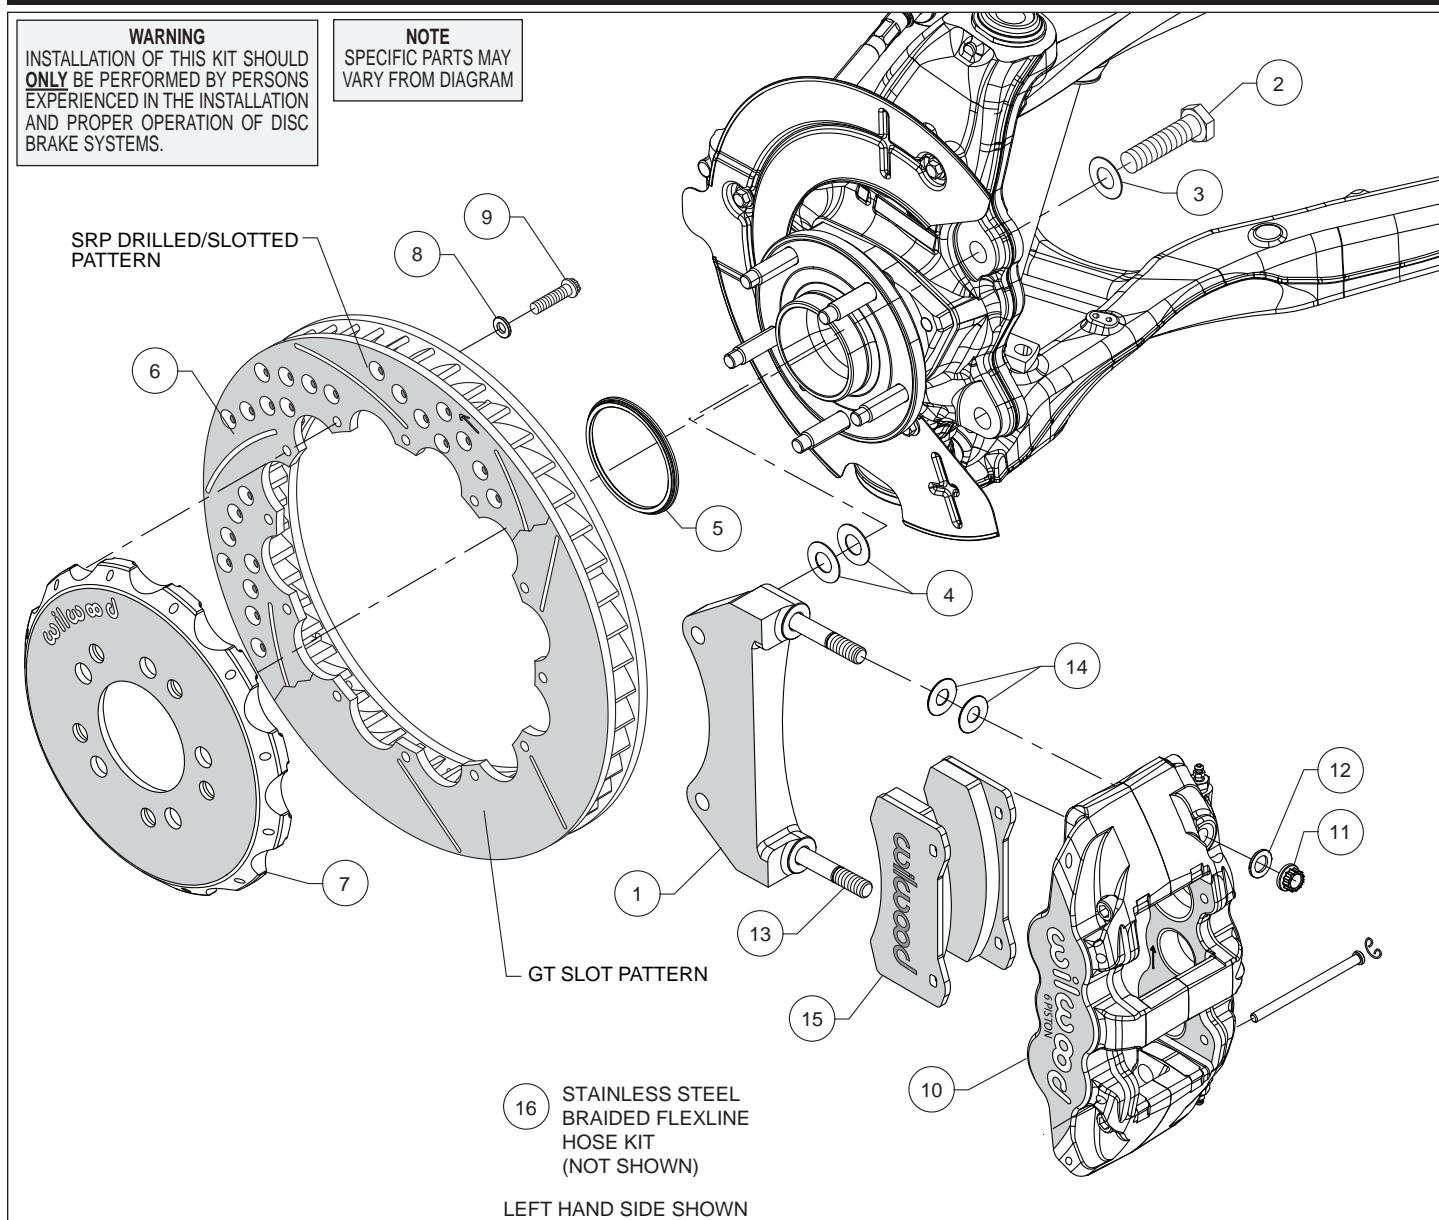
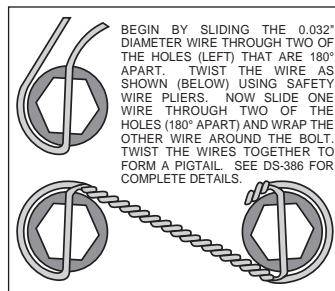

Figure 1. Typical Installation Configuration
Figure 4. Safety Wire Diagram
Assembly Instructions (numbers in parenthesis refer to the parts list and Figure 1 on the preceding pages):
- The caliper mount bracket (1) should initially be installed with clean, dry threads on the mounting bolts. Orient the bracket as shown in Figure 1, and Photo 1 and install using bolts (2) and washers (3). Initially place two .029" thick shims (4) on each bolt between the bracket and upright, Figure 1. Temporarily tighten the mounting bolts. **NOTE:** The bracket must fit squarely against the mount bosses on the upright. Inspect for interference from casting irregularities, machining ridges, burrs, etc. Later, after the caliper alignment has been checked, the mount bolts will be secured using red *Loctite*® 271.
- Orient the rotor (6) and the hat (7) as shown in Figure 1 and Photo 2. Attach rotor to hat using bolts (9) and washers (8). Using an alternating sequence, apply red *Loctite*® 271 to the threads, and torque to 155 in-lbs. For an added measure of security, the bolts may be safety wired using standard 0.032 inch diameter stainless steel safety wire as shown in Figure 4. Please refer to Wilwood's data sheet DS-386 (available at www.wilwood.com/Pdf/DataSheets/ds386.pdf) for complete safety wire installation instructions.
- NOTE:** This kit contains distinct right and left hand calipers that must be mounted in a specific direction, as described below. Lubricate the caliper mounting studs (13) with lightweight oil. Initially place two .030" thick shims (14) on each stud as shown in Figure 1 and Photo 5. Mount the caliper (10) onto the bracket (1) using lock nuts (11) and washers (12), Figure 1. Ensure that the caliper is mounted so that the largest pistons are at the rotor exit end of the caliper, in relation to the direction of rotor rotation. Temporarily tighten the lock nuts and view the rotor through the top opening of the caliper. The rotor should be centered in the caliper, Photo 6. If not, adjust by adding or subtracting shims (4) between the bracket and the upright. Always use the same amount of shims on each of the two mounting bolts. Once the caliper alignment is correct, remove the bracket mounting bolts (2) one at a time, apply red *Loctite*® 271 to the threads, and torque to 77 ft-lb.
- Remove the two pad retaining pins from the caliper (10) by carefully popping out the pin retaining clips and sliding out the pins. Insert the brake pads (15) into the caliper from the bottom, Figure 1 and Photo 7. With the friction material facing the rotor, secure the brake pads in place with the pad retaining pins and clips, Photo 8. Reinstall the caliper onto the caliper mounting bracket and temporarily tighten the lock nuts. Check that the top of the brake pad is flush with the outside diameter of the rotor, Photo 9. If not, adjust by adding or subtracting shims (14) between the caliper and the bracket. After the caliper pad height is set, torque the caliper lock nuts (11) to 47 ft-lb.